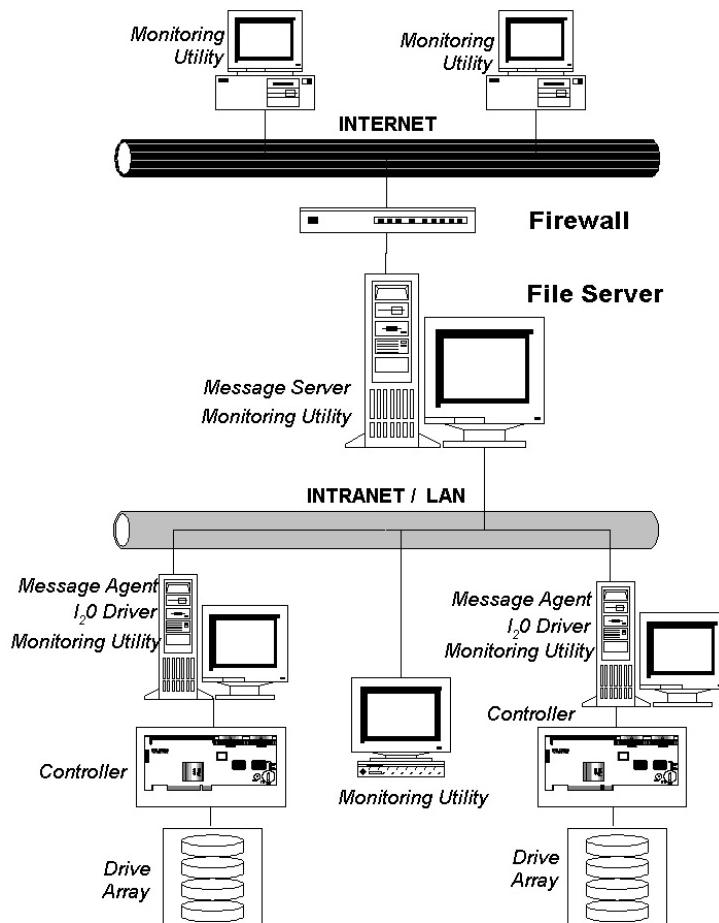

Figure 17: Typical SuperCheck Component Installation
A typical installation of the SuperCheck software components on a network might look like Figure 17 on page 32. The major elements of this network are (from top to bottom):
- (1) **SuperCheck Utility** - The SuperCheck Monitoring Utility (the GUI that you will be using) may be installed on any system element with a TCP/IP connection where you want to perform monitoring. As shown in Figure 17, the SuperCheck utility is installed on the main File Server, on both SuperTrak66 stations, on two remote systems over the Internet, and on one internal system. *NOTE: For security reasons, array maintenance features can only be performed at the actual server location of a SuperTrak66 array and are unavailable at all other consoles.*
- (2) **Message Server** - The Message Server software component serves as the main link between all SuperTrak arrays residing on the network, the internal Intranet/LAN (via TCP/IP protocols), and remote monitoring stations communicating via the Internet. For remote Internet monitoring, the Message Server component must be installed on a machine with an unique IP address that is visible to the Internet (as in our example). From its central communications position, the Message Server software interfaces with all SuperTrak arrays located on the LAN and allows all system elements (with the GUI installed) to see those arrays. The File Server where the Message Server software is installed may or may not house a SuperTrak array. In our example on Figure 17, it does not. One reason may be that the File Server is not running Windows NT 4.0.
- (3) **Message Agent** - The Message Agent software component must be installed on each file server that will house a SuperTrak array. The Message Agent communicates with both the Message Server and the SuperTrak66 controller. Installing the Message Agent automatically installs the I₂O device driver. *NOTE: All stations containing SuperTrak66 must be running Windows NT 4.0. Maintenance on SuperTrak arrays can be performed only using these stations .*
- (4) **I₂O Device Driver** – Installed automatically with the Message Agent, the driver allows the station to communicate directly between the Promise SuperTrak controller card and Windows NT. This permits Windows NT to recognize RAID arrays attached to it.